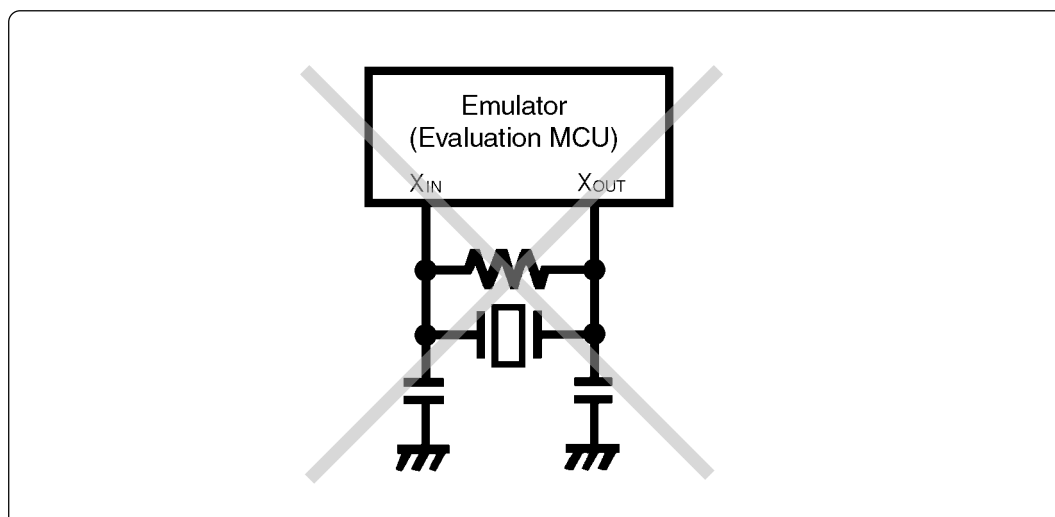

Figure 3.2 Circuit in which oscillation does not occur (same for  $X_{CIN}$ - $X_{COUT}$ )
Make note of the fact that in the oscillator circuit shown in Figure 3.2 where a resonator is connected between pins  $X_{IN}$  and  $X_{OUT}$ , oscillation does not occur because an emulation circuit is used between the evaluation MCU and the target system. It is same for sub-clock oscillator circuits ( $X_{CIN}$  and  $X_{COUT}$ ).
- Make note that in the oscillator circuit shown in Figure 3.2 where a resonator is connected between pins  $X_{IN}$  and  $X_{OUT}$ , oscillation does not occur because a converter board and other devices are used between the evaluation MCU and the target system. It is same for sub-clock oscillator circuits ( $X_{CIN}$  and  $X_{COUT}$ ).